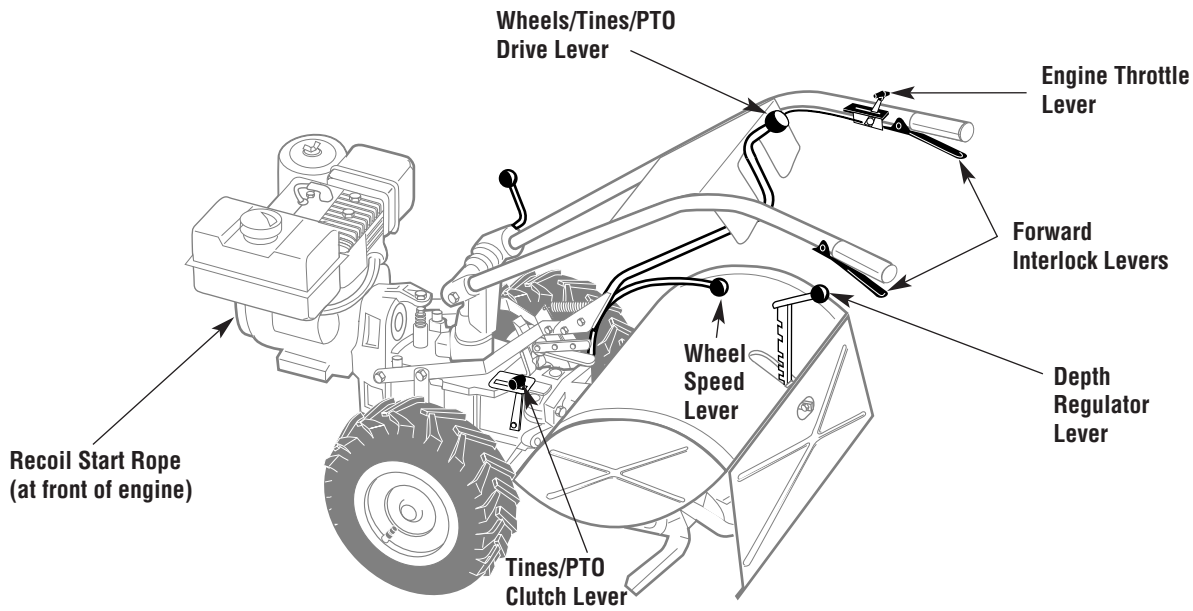

Figure 4-2: Tiller and engine controls.
4. Shift the Wheels/Tines/PTO Drive lever (Figure 4-2) into NEUTRAL position. See Section 3, *Controls* for more information on this lever.
1. With the engine off, place the Wheels/Tines/PTO Drive Lever (Figure 4-2) in the NEUTRAL position. If in the FORWARD position, tap the lever sharply upward, it should automatically move into NEUTRAL position.
2. Put the Depth Regulator Lever in the Travel position (lever all the way down) so that the tines are off the ground. To do this, lift up on the handlebars, pull the lever (Figure 4-2) back, and push it down all the way to the top detent (notched) position.
3. Move the Wheel Speed Lever (Figure 4-2) to either the SLOW or FAST position. Be sure to roll the wheels while shifting the lever until the wheels engage.
4. Move the Tines/PTO Clutch Lever into DISENGAGE position (Figure 4-2).
7. Move engine throttle lever (Figure 4-2) away from STOP.
5. Warm up the transmission gear oil as follows: With engine running, move Wheel Speed Lever (Figure 4-2) to FREEWHEEL (then block wheels so they can’t roll), put Tines/PTO Clutch Lever into DISENGAGE, then squeeze one of the Forward Interlock Levers and shift the Wheels/Tines/PTO Drive Lever to FORWARD.
1. Shift the Tines/Wheels/PTO Drive Lever (Figure 4-2) into NEUTRAL and move the Wheel Speed Lever to the SLOW position.
2. Move Tines/PTO Clutch Lever (Figure 4-2) into DISENGAGE position.
1. At the end of a row, move the Wheels/Tines/PTO Drive Lever (Figure 4-2) to NEUTRAL position and reduce the engine speed.
2. Move the Tines/PTO Clutch Lever (Figure 4-2) into the DISENGAGE position.